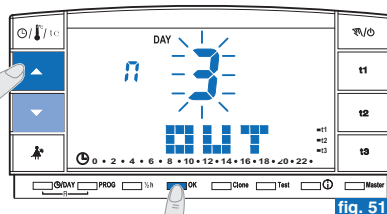

fig. 51
- The current month will blink on the display. Using the   keys, set the month in which you want to activate the Holiday program (leave home). Confirm with **OK** (fig. 51).